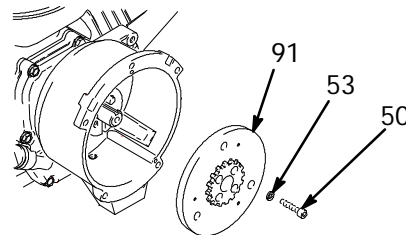

Fig. 9 8704A
8. Fig.9. Use an impact wrench or wedge something between clutch and clutch housing to hold clutch during removal.
9. Remove four screws (50) and lockwashers (53).
10. Remove clutch (91).